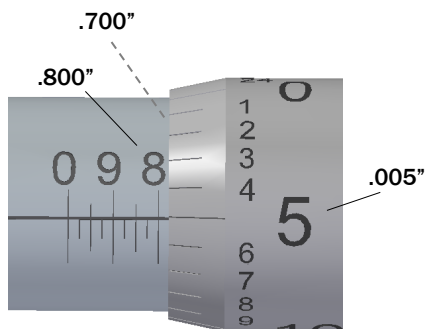

Fig.14
1. Fig.14, Line "8" on the sleeve is visible, but Line "7" is not so the measurement is greater than $>.700"$.